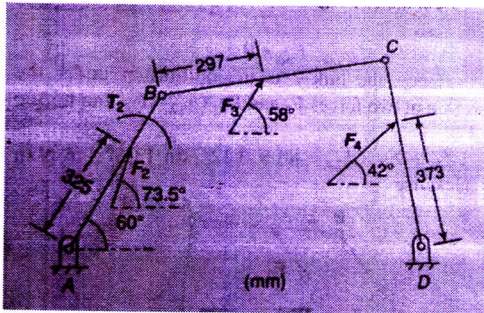

Figure 1.
- 17 A four-link mechanism is subjected to the following external forces (Fig.1 & Table 1). Determine the shaft torque T_2 on the input link AB for static equilibrium of the mechanism using the principle of virtual work. Assume, the link AB has an instantaneous angular velocity of ω rad/s counter-clockwise 14